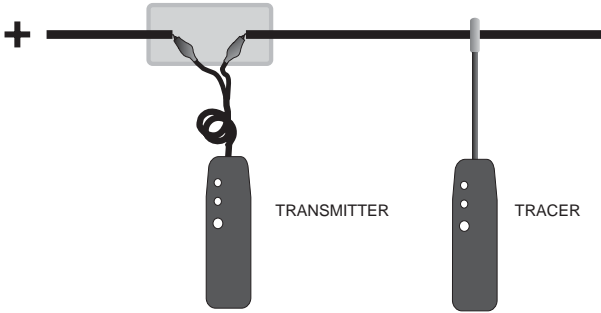
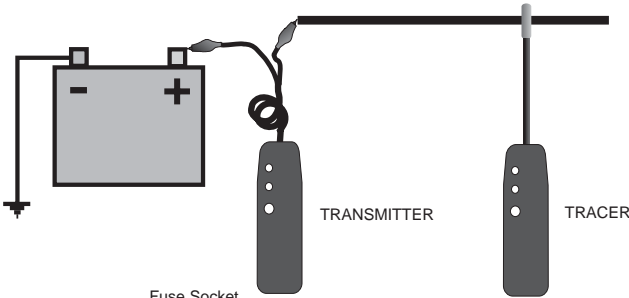

Fig. 1 - Set Up for tracing short or open circuits or location of wiring
Fig. 2 - Set Up for tracing short or open circuits, or locating of wiring
2. Connect the transmitter in series with the short-circuited wire, making sure one of the unit's clips is connected to the circuit's positive supply (or vice versa for vehicles with positive supply connected to chassis). A fuse socket (in place of the blown fuse), a connector, etc. provides a convenient place as shown in Fig. 1 and Fig. 2.
- Tracing wires downstream (from supply to load): Replacing the load for a full short circuit allows the Fault Finder to work at its maximum capabilities. Before proceeding remove all electrical power from the circuit, connect the transmitter in series with, short circuit load to ground (Fig.1 and 2), then reconnect power and follow instructions in Locating Short Circuits.
Notes: The type and size of the leak in the circuit (impedance or resistance to ground) determines the amount of current leaking from the circuit. Small leaks (i.e. low current) will reduce the range of the tracer accordingly. In all cases the receiver probe should be positioned as close as possible to the wires, in order to maximize the signal captured by the tracer. For hook up refer to Fig. 1 and Fig. 2.
2. Connect the transmitter in series with the open ended wire, making sure one of the unit's clips is connected to the circuit's positive supply or ground. A fuse socket (with the fuse removed), a connector etc., provides a convenient place as shown in Fig. 1, 2, 3, or 4.